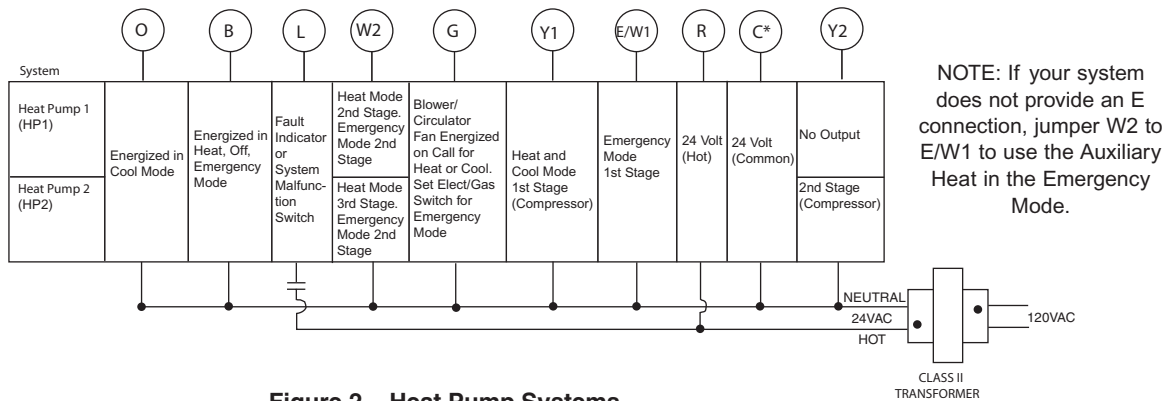

Figure 2 – Heat Pump Systems
2. Connect wires beneath terminal screws on base using appropriate wiring schematic (see figs. 2 through 3).
See figure 2 below to help you wire the thermostat properly. After wiring, see **CONFIGURATION** section for proper thermostat configuration.